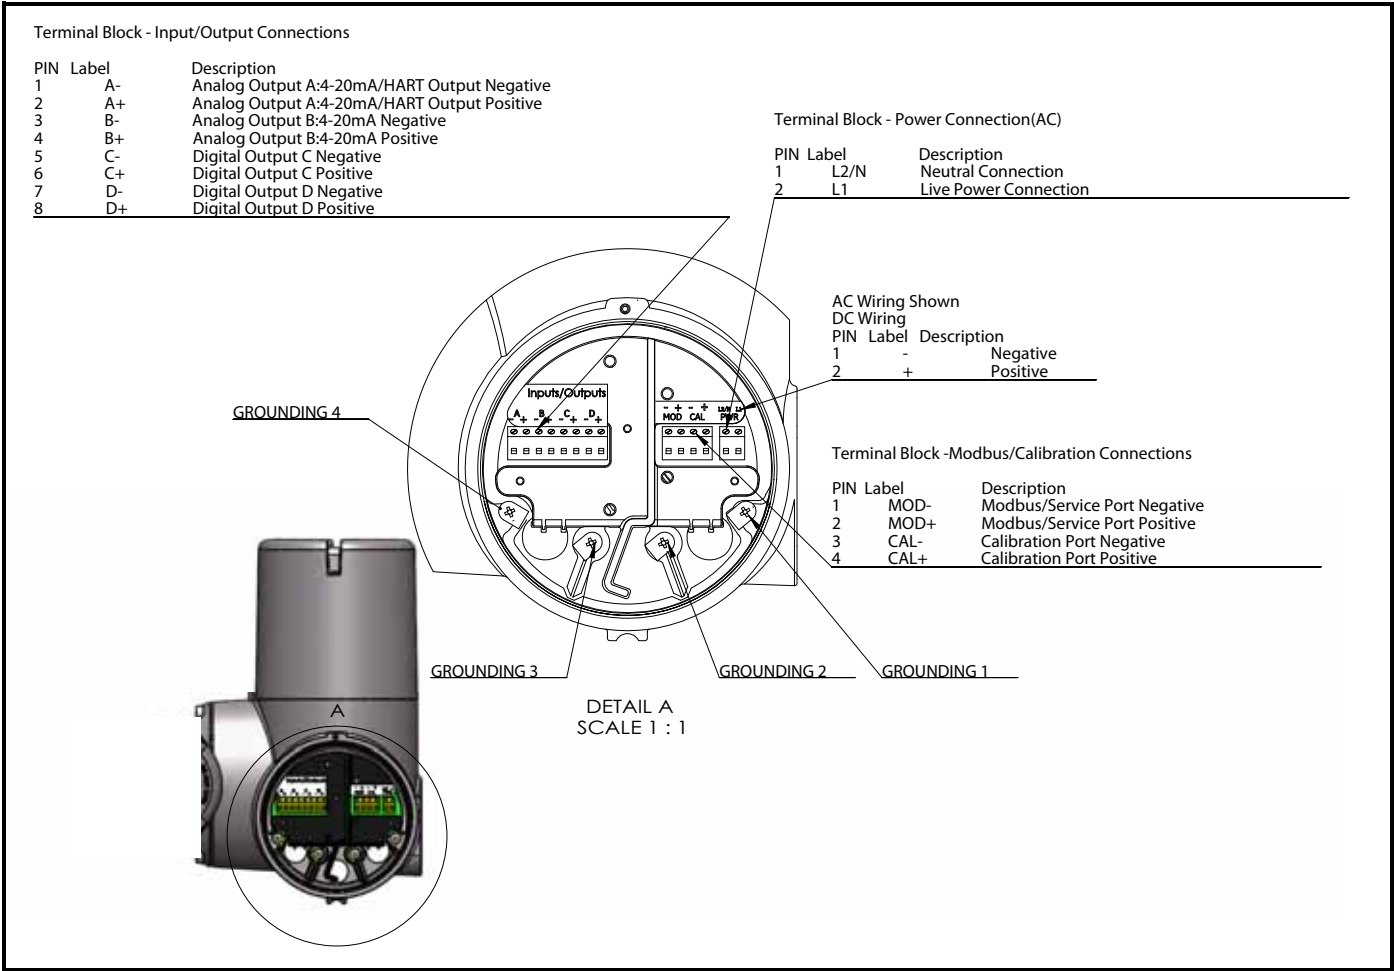
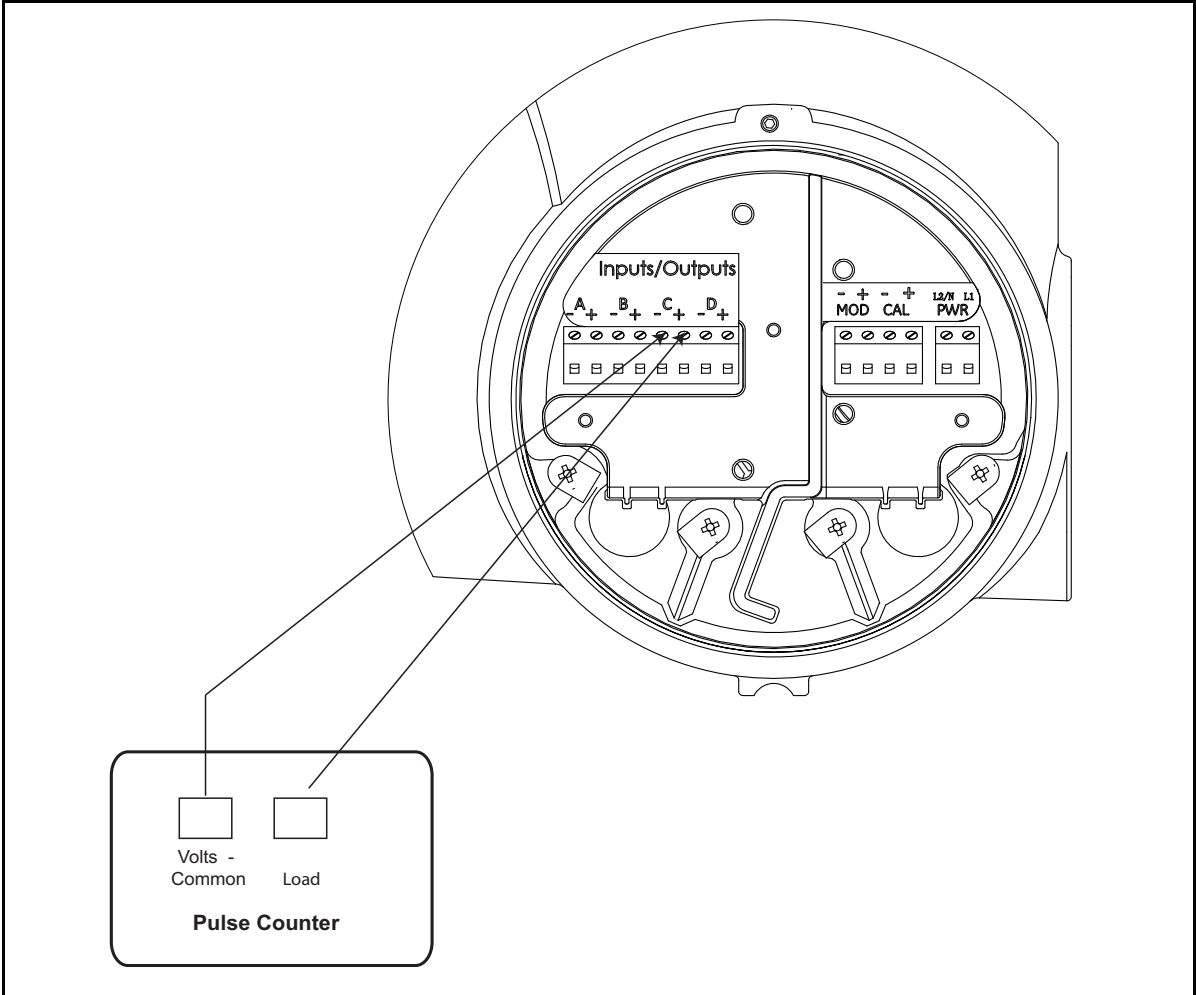
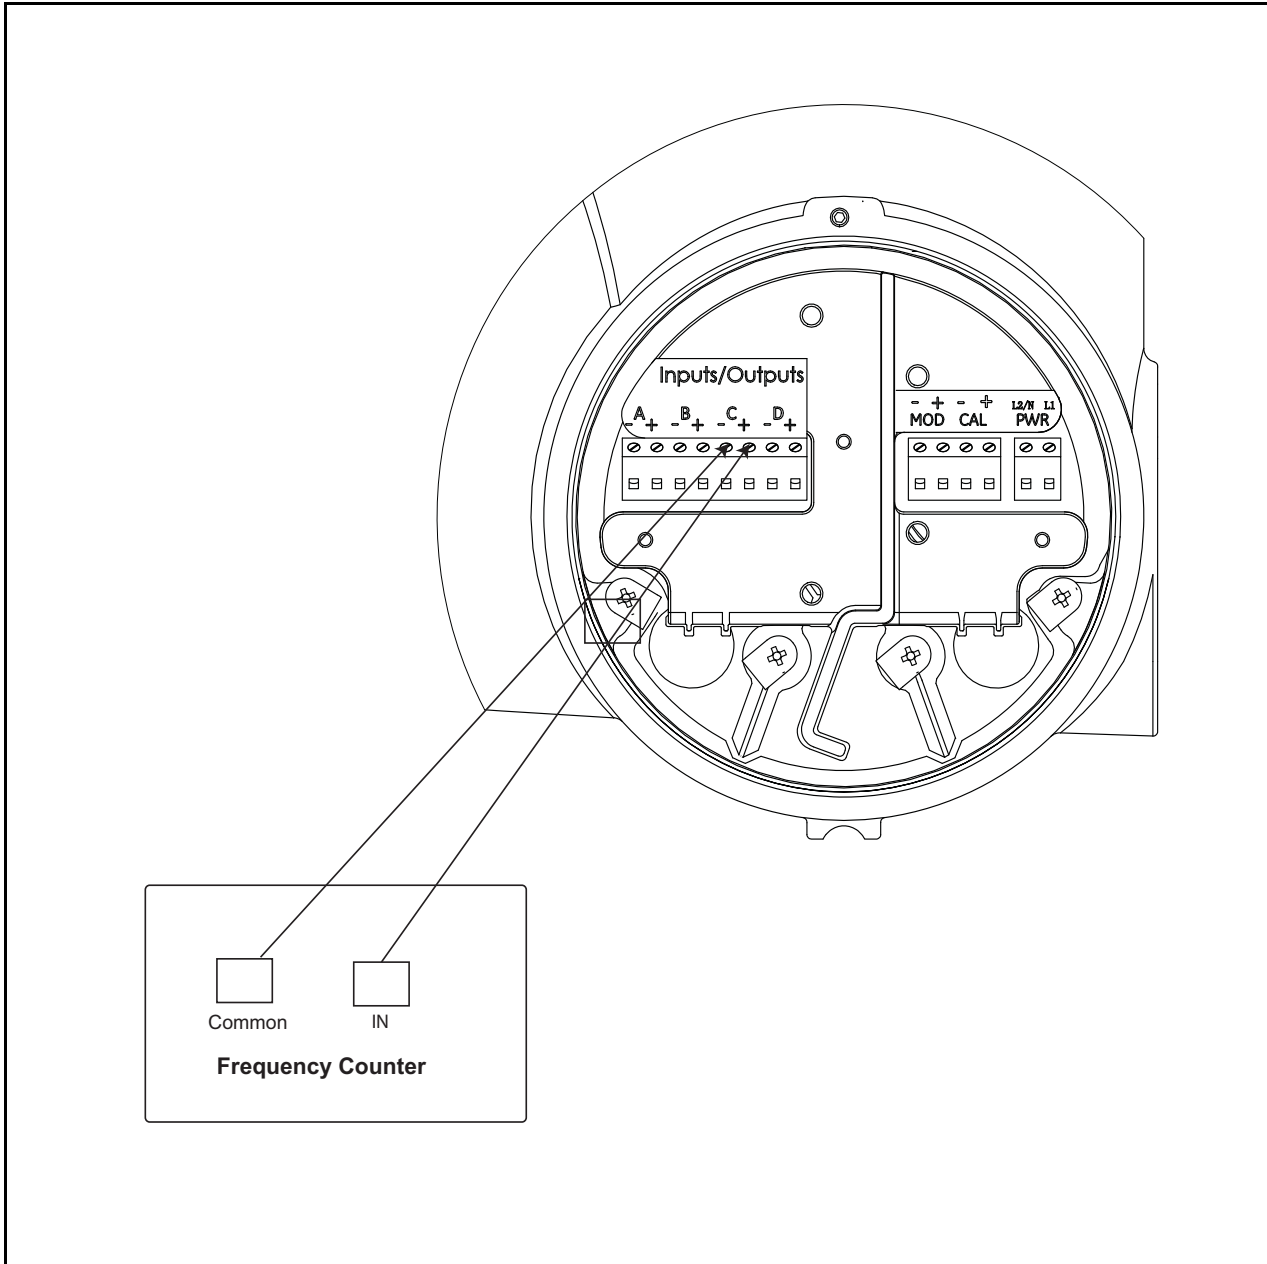
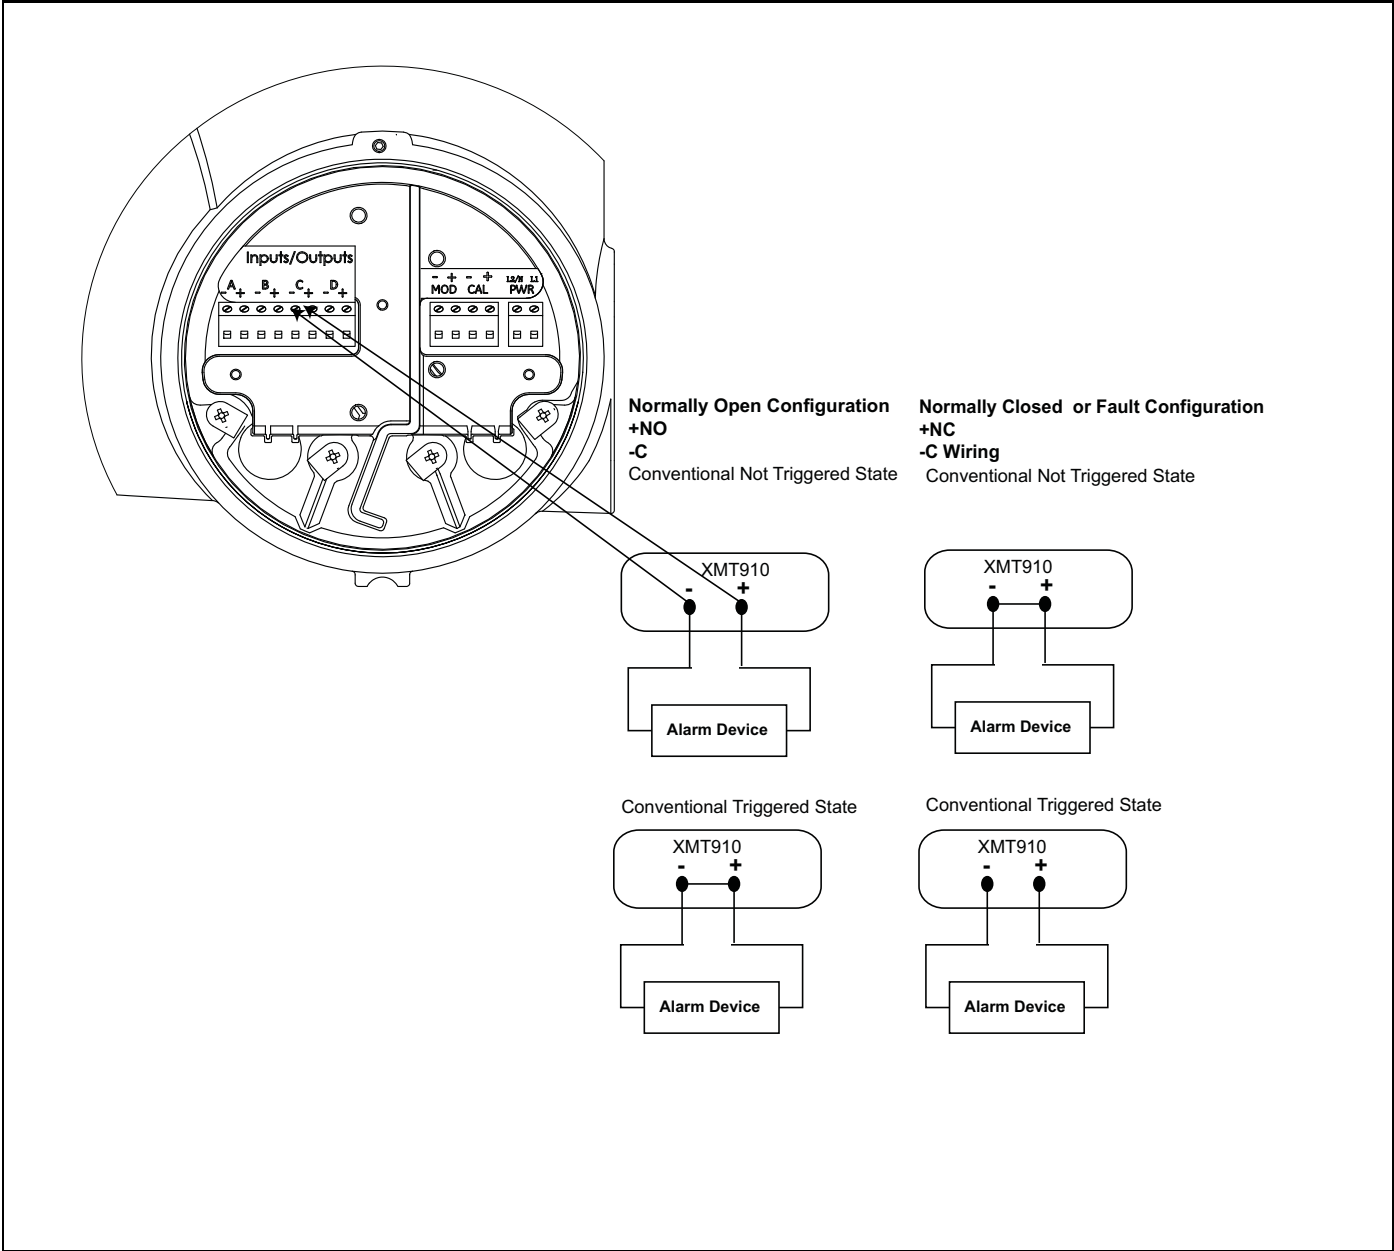

Figure 8: Wiring Diagram
Figure 9: Wiring a Totalizer (Pulse) Output
Figure 10: Wiring a Frequency Output
Figure 11: Wiring Alarm Outputs
This section contains instructions for making all the necessary electrical connections to the XMT910 flow transmitter. Refer to Figure 8 for a complete wiring diagram.
Refer to Figure 8 below and prepare the XMT910 for wiring by completing the following steps:
Note: Proper grounding of the PanaFlow Z3 chassis is required to prevent the possibility of electric shock. See Figure 8 above to locate the chassis grounding screw. All ground screws should be hand tightened only. Do not over-torque. Maximum torque is 2.5 N-m (22 in-lbs).
3. Locate the terminal block shown in Figure 8 on page 7 and wire the option as indicated on the label inside the wiring cover. Secure the cable clamp.
3. Refer to Figure 8 on page 7 for the location of the terminal block and wire the analog output as shown. Secure the cable clamp.
3. Refer to Figure 8 on page 7 for the location of the terminal block and wire the digital outputs (C and D) as shown. Secure the cable clamp.
Wire this option in accordance with the connections shown on the label in the rear cover (see Figure 8 on page 7). Figure 9 shows a sample wiring diagram of a totalizer output circuit. Refer to Appendix A, *Specifications*, for the load and voltage requirements.
Wire this option in accordance with the connections shown on the label in the rear cover (see Figure 8 on page 7). Figure 10 below shows a sample wiring diagram of a frequency output circuit. Refer to Appendix A, *Specifications*, for the load and voltage requirements.
In setting up an alarm relay, it may be programmed for either *conventional* or *fail-safe* operation. In fail-safe mode, the alarm relay is held at “closed” (5 VDC), except when it is triggered or a power failure or other interruption occurs. Connect each alarm relay in accordance with the wiring instructions shown in Figure 11 below (see Figure 8 on page 7). Refer to Appendix A, *Specifications*, for the load and voltage requirements.
To wire to this RS485 serial port, refer to Figure 8 on page 7 and complete the following steps:
Refer to Figure 8 on page 7 to locate the terminal blocks and connect the line power as follows:
3. Route the cable through the conduit hole and connect the line power leads to the power terminal, using the pin number assignments shown in Figure 8 on page 7.